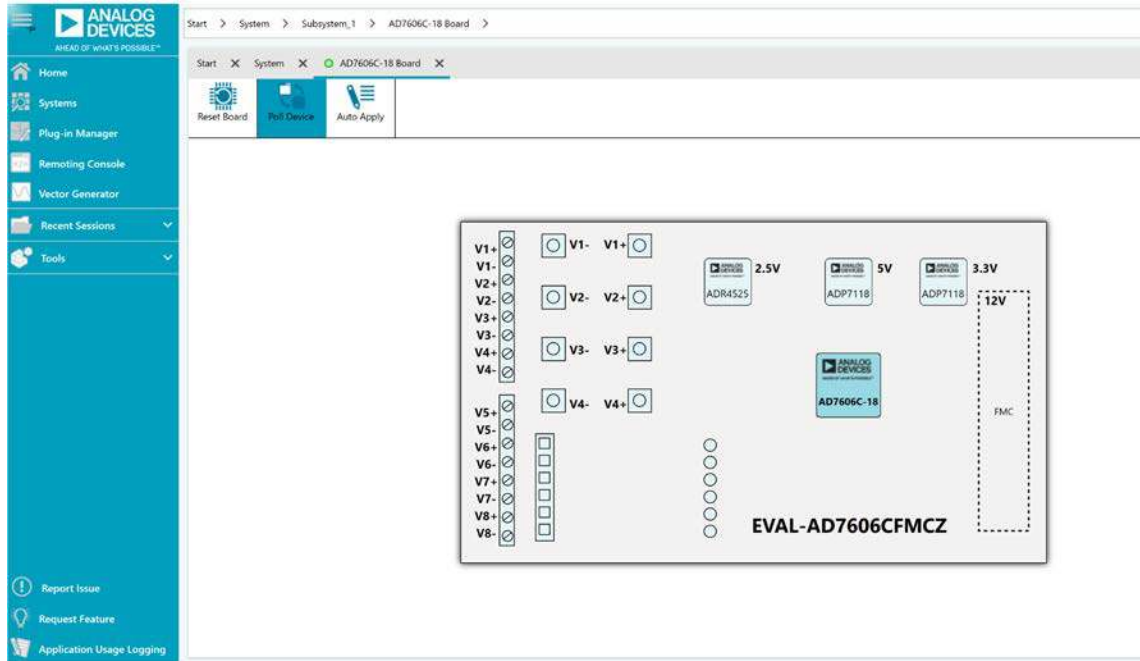

Figure 11. AD7606C-18 Board View
3. Double click the **AD7606C-18 Board** icon to open the **AD7606C-18 Board** view window shown in Figure 11.